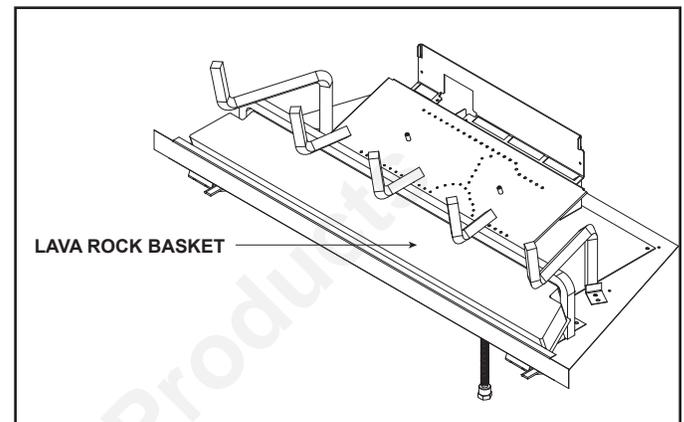

Figure 14.2
1. Add lava rock to lava rock basket. See Figure 14.2.